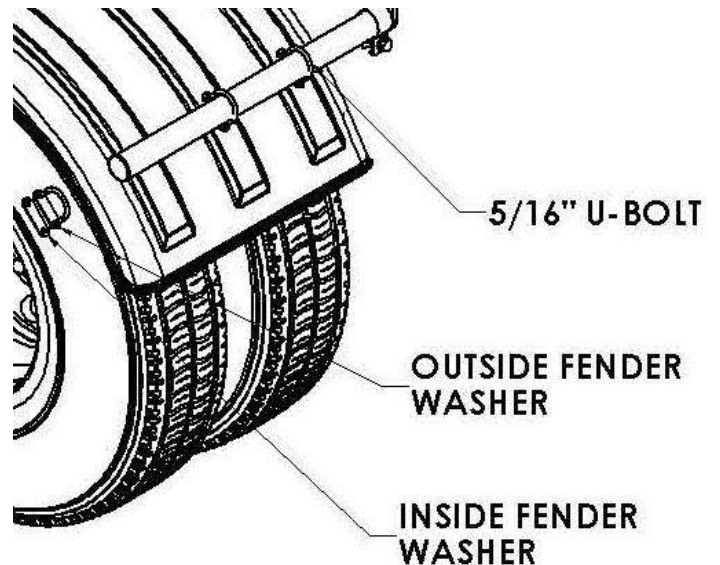

Figure 9
- f. Make sure the fenders are square and aligned (Figure 9). Twists or bows in the fender will fatigue the material over time.